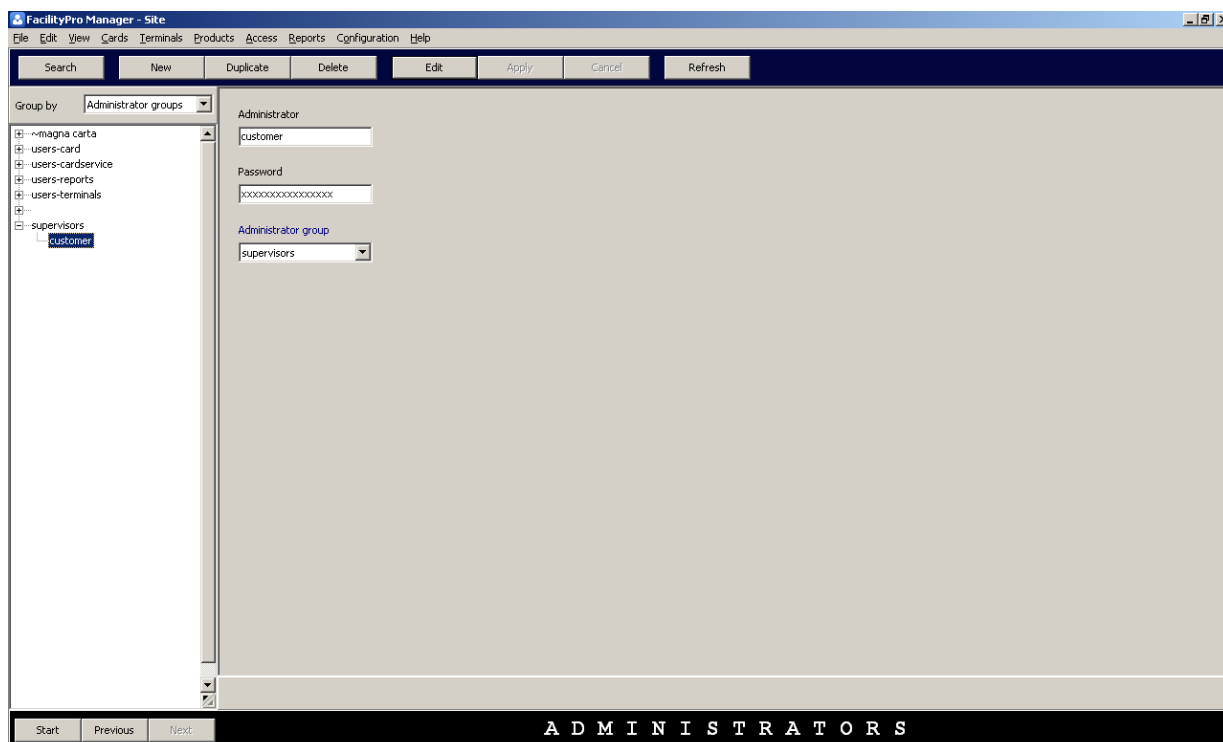

Figure 8-11 The administrators data screen
2. Choose **Administrators**. You will see the administrators data screen (Figure 8-11).